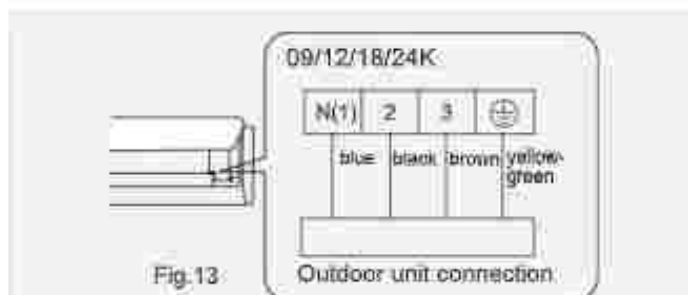

Fig.13
- (3) Remove the wire clip, connect the power connection wire/signal control wire (only for cooling and heating unit) to the wiring terminal according to the color; tighten the screw and then fix the power connection wire with wire clip. (As show in Fig.13)